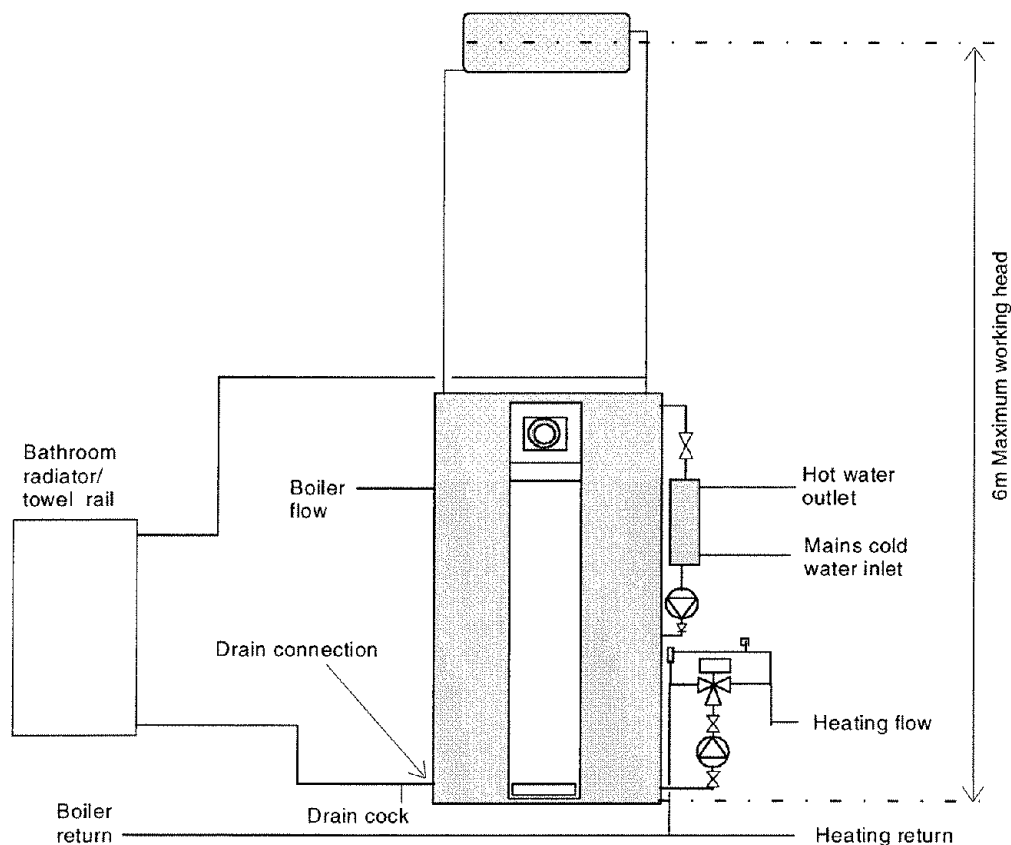

Figure 2.5 Arrangement for Connecting Bathroom Radiator or towel Rail Heated by Gravity Circulation
1. If heating of a bathroom radiator or towel rail is required in summer, then it can be piped as a gravity circuit shown schematically in Figure 2.5. The flow pipe to the radiator can be feed into the safety open vent pipe and the return pipe from the radiator can be connected to the store drain connection and the drain moved to the return pipe.